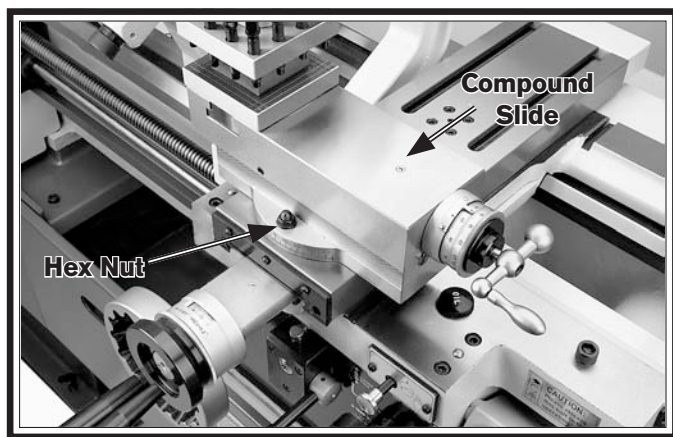

Figure 71. Compound slide set at an angle.
1. Loosen the two hex nuts at the base of the compound slide (1 of 2 shown in **Figure 71**).